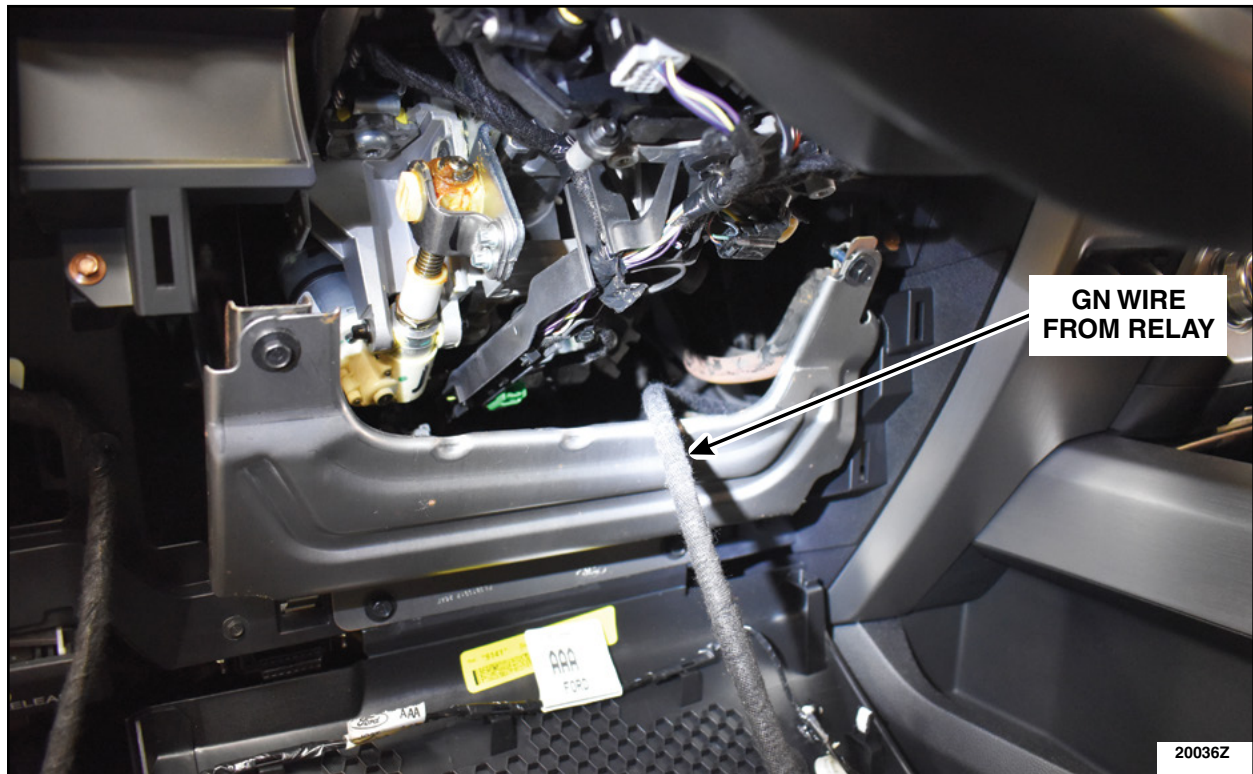

FIGURE 28
46. Pull the GN wire from the relay through the vehicles instrument panel to the Left Hand (LH) steering wheel opening. See Figure 28.